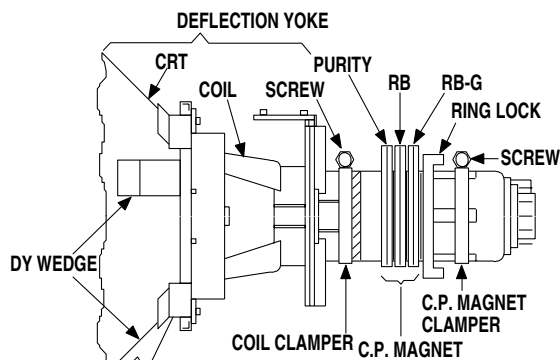

Fig. 8
5. Loosen the screw on the Deflection Yoke Clamper and pull the Deflection Yoke back away from the screen. (See Fig. 8.)